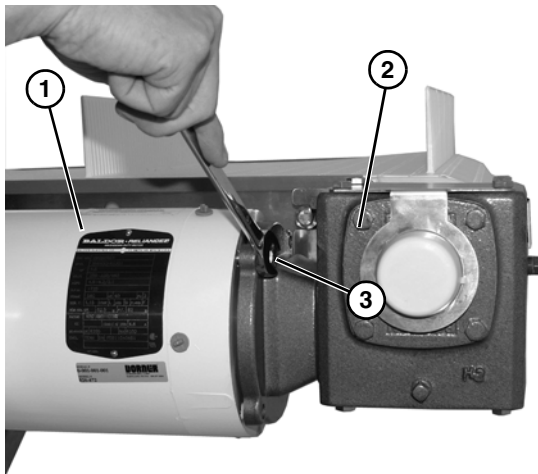

Figure 9
8. Secure motor (**Figure 9, item 1**) to gear reducer (**Figure 9, item 2**), with four bolts (**Figure 9, item 3**).
9. Tighten four bolts (**Figure 9, item 3**) to 65 in-lbs (7.3 N-m).